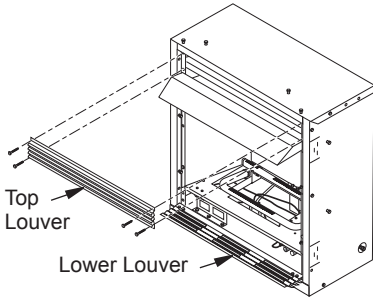

Figure 15 - Removing Top Louver and Opening Bottom Louver
- Remove 4 screws from upper louver (see Figure 15). Save these screws.
- Open lower louver door by swinging door down (see Figure 15).
- Reinstall upper louver beginning with bottom screws (see Figure 15). Close lower louver door.
6. Reinstall upper louver beginning with bottom screws (see Figure 15, page 14) and close lower louver.